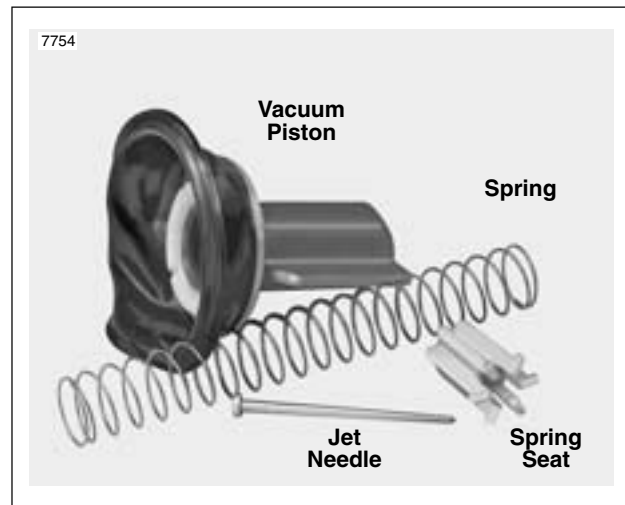

Figure 4-15. Carburetor-Top End
1. Thoroughly clean all loose parts (except diaphragm) with carburetor cleaner. See Figure 4-15. Blow dry using low pressure compressed air.